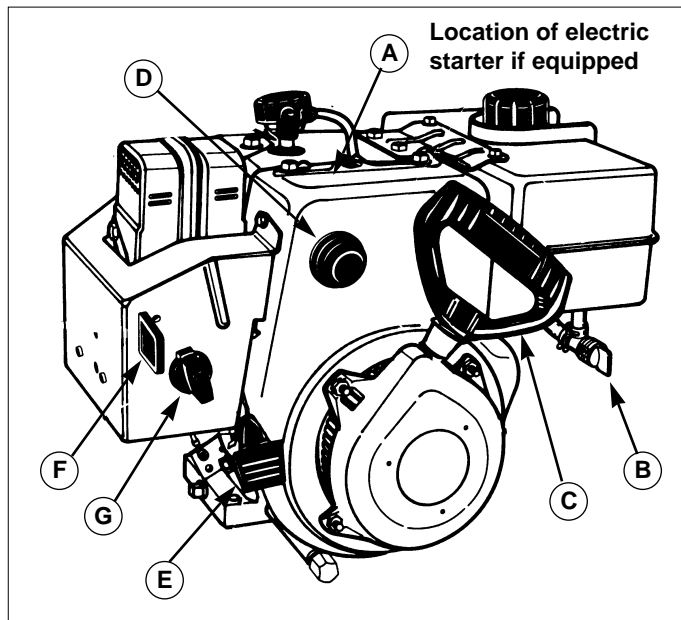

Figure 6. Engine Controls
1. Turn the fuel valve (B, Figure 6) to the ON position.
2. Insert the Engine Key (F, Figure 6) into the Engine Key slot and push fully in to the RUN position.
3. Move the Throttle Lever (E, Figure 6) fully up to the FAST position.
4. Turn the Choke Knob (G, Figure 6) fully clockwise if engine is cold. (Do not choke a warm engine.)
5. Push the Primer Button (D, Figure 6) two times if engine is cold. (Do not prime a warm engine.)
6. Pull Starter Handle (C, Figure 6) rapidly, or push Starter Button if equipped with the electric start. Do not allow the Starter Handle to snap back—let the starter rope rewind slowly—while keeping a firm grip on the Starter Handle.
7. As the engine starts and begins to operate evenly, turn the Choke Knob (G, Figure 6) slowly counter-clockwise to the OFF position, and set the Throttle Lever to SLOW. If the engine falters, turn the Choke Knob clockwise until the engine runs smoothly, and let it run briefly before returning the choke to the OFF position.
For overall best performance, run the snowthrower at full engine operating speed. Use the engine Throttle Lever (E, Figure 6) to set the engine speed. Slide the Throttle Lever UP to increase engine speed, and DOWN to reduce speed.